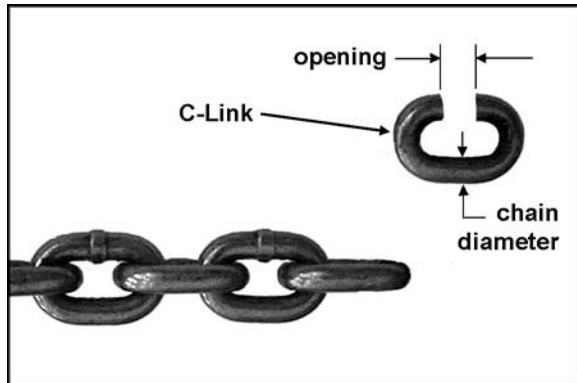

Figure 15
7. Check that the chain is not twisted at the bottom hook. All welds should face the same direction (see Figure 15). For hoists with two or more falls of chain, make sure the bottom hook is not turned over. This may cause the chain to twist.
2. Cut the weld from the link leaving an opening approximately 1.25 times the diameter of the link material. See Figure 15.